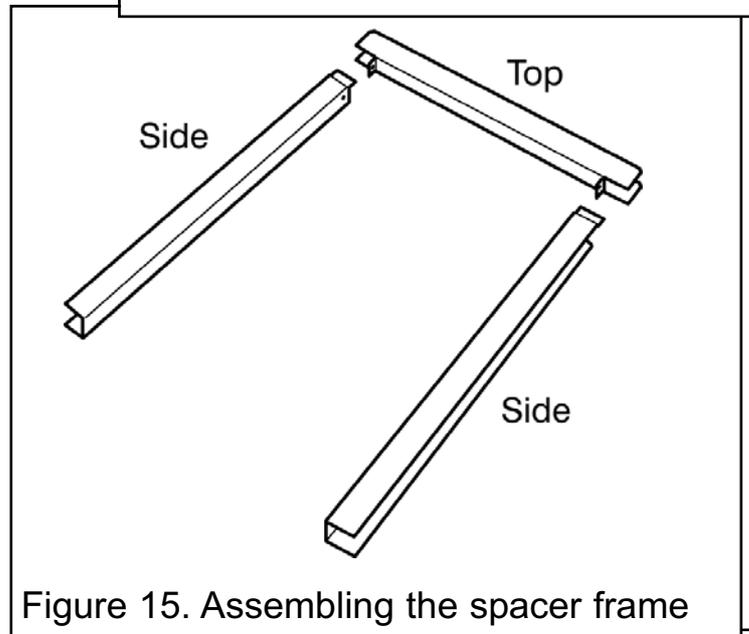

Figure 15. Assembling the spacer frame
10. Supplied with the fire is a spacing frame. This is made up of three separate pieces, a top and two sides. The three pieces are identified in figure 15.